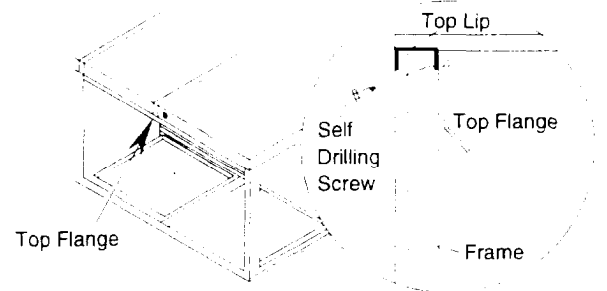

Figure 7: Installing Top Flange
- Use the self drilling screws provided to secure the top flange to the lip. Install the screws from outside the unit as shown in Figure 7.